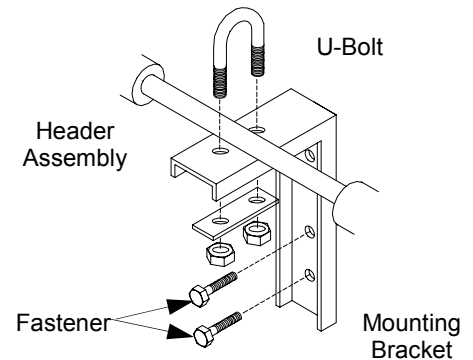

Figure 3
4. Marking the mounting holes and install fasteners suitable for the type of wall constructions. (Figure 3)
13. Mark the mounting hole and install fasteners suitable for the type of wall construction. (Figure 3)